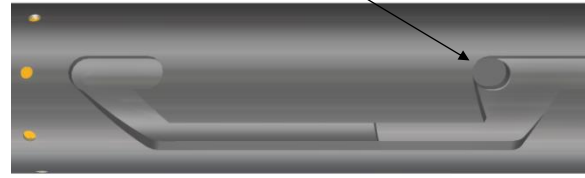

Fig. 8
K-1.18) Position J-pin of J-pin bottom sub (23) on tension shoulder in J-slot of J-body (20) (Fig. 8).